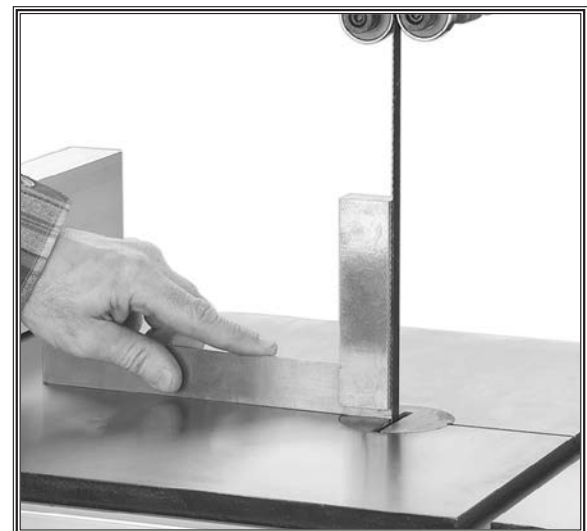

Figure 17. Squaring table to blade.
3. Using a small machinist's square, place the long end on the table and the short end against the blade (see **Figure 17**).